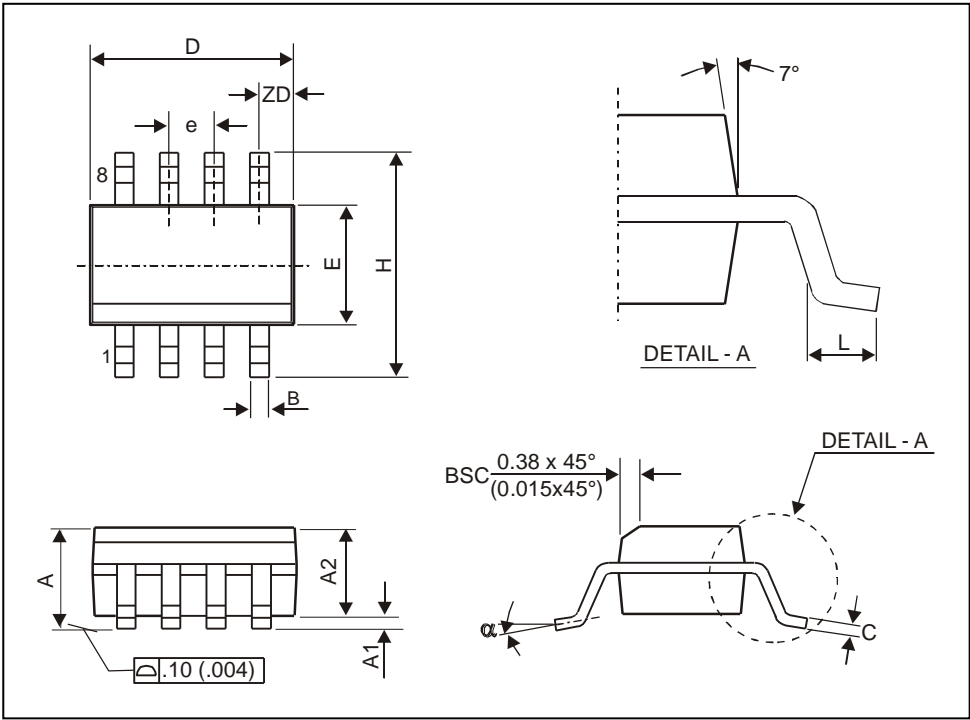

Fig. 18: SOIC8 (Small Outline Integrated Circuit)
typical values at $T_A = 23\text{ }^{\circ}\text{C}$ and $V_{CC} = 3\text{ V}$; test circuit shown in Fig. 18, $f_c = 315\text{ MHz}$
6.1. Test circuit component list to Fig. 18